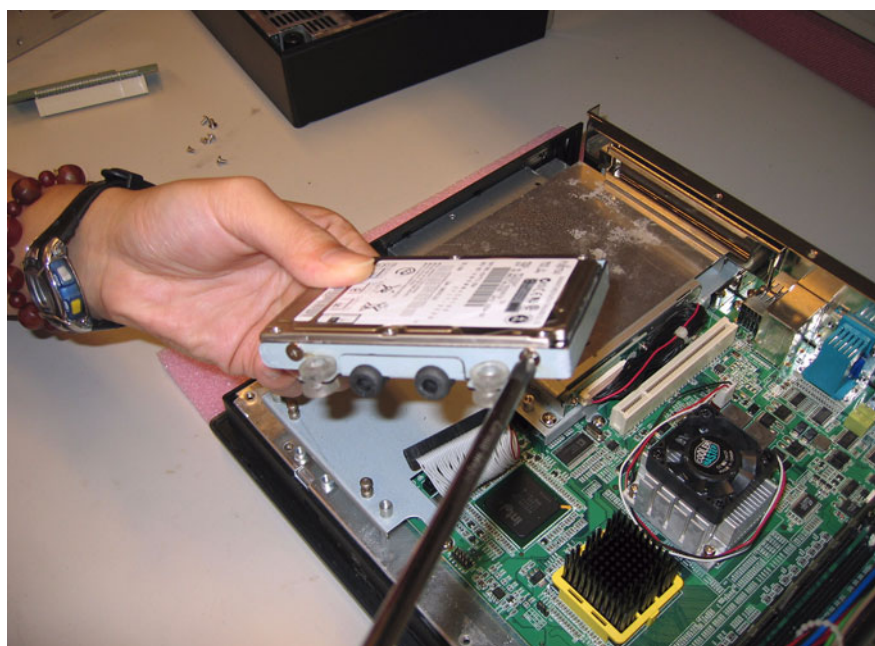

Figure 4.5 Fastening the HDD metal frame to the HDD
1. A metal plate holds the HDD to the upper right-hand side of the metal shielding case. (See Fig. 4-5.) Fix the two screws on the metal plate of two side of HDD.